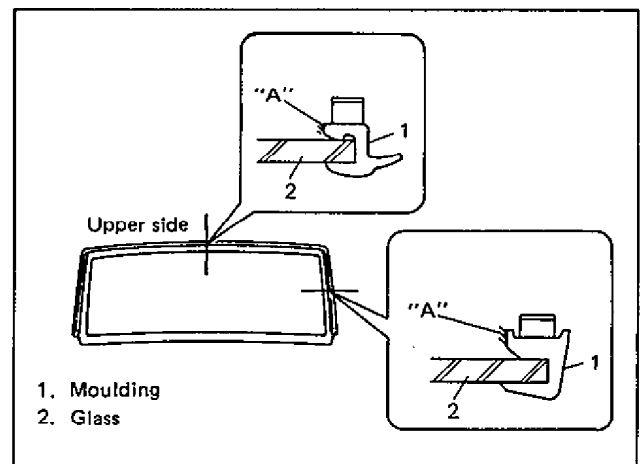

Fig. 9-63
9) Using new brush, apply sufficient amount of primer for moulding (Urethane) to surface "A" as shown in Fig. 9-63.